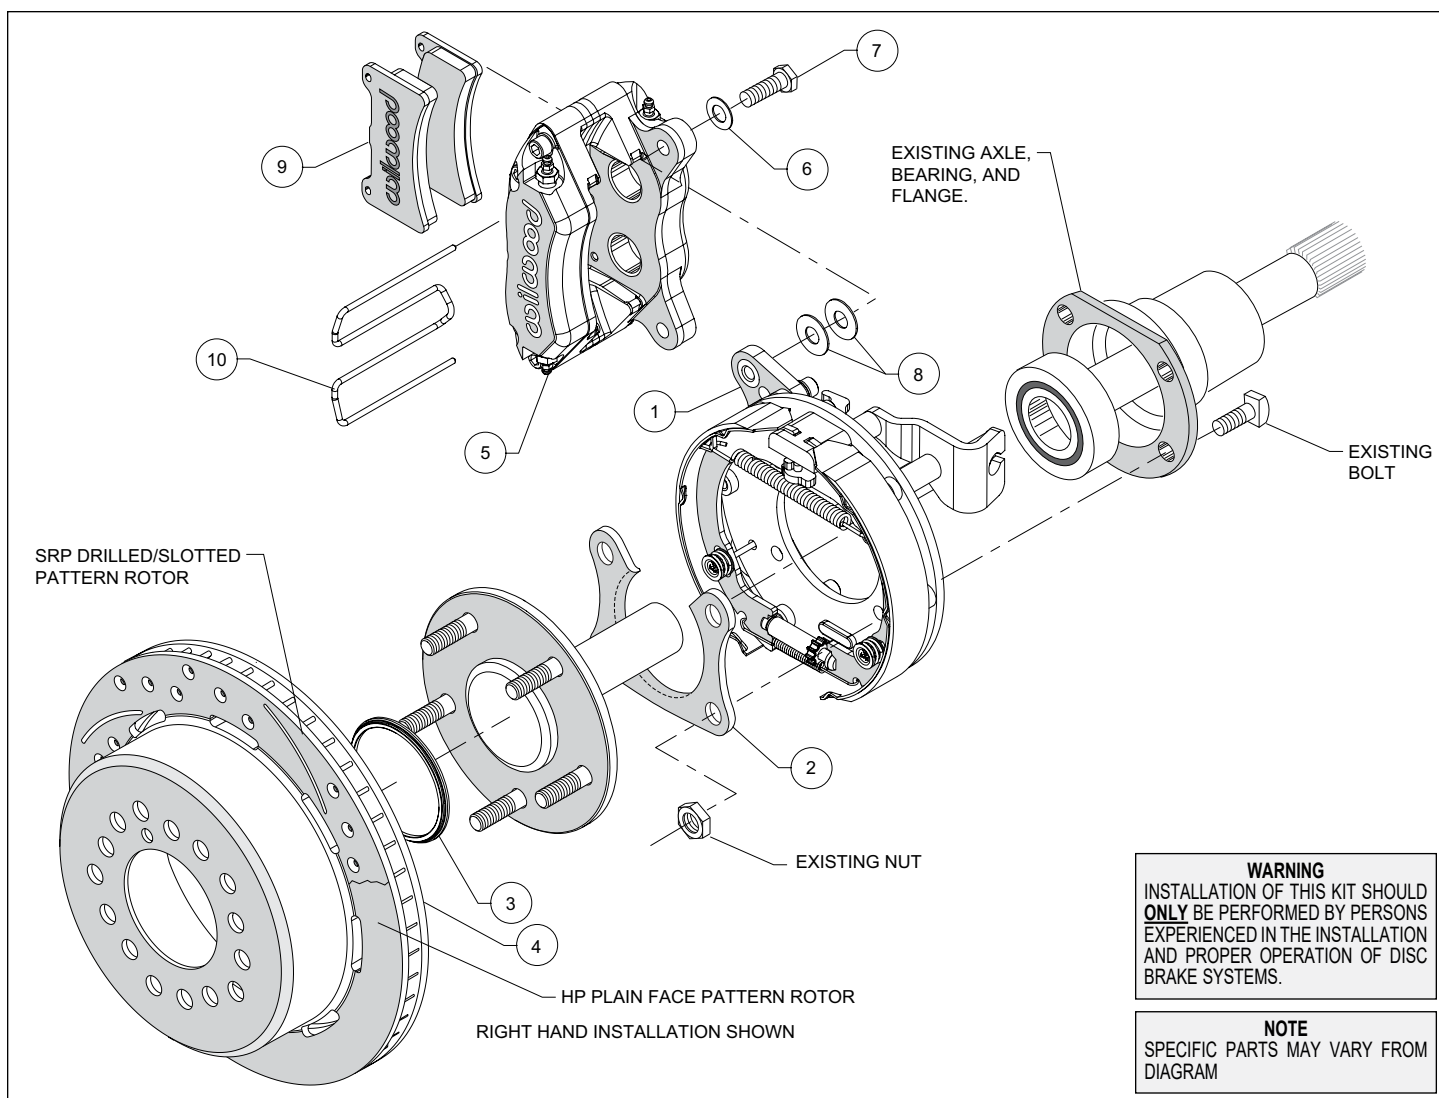

Figure 1. Typical Installation Configuration
NOTE: Numbers in parenthesis refer to the parts list and Figure 1 on the preceding pages.
- Orient the bracket assembly (1) as shown in Figure 1 and Photo 1 and slide it onto the axle. Insert the axle and bracket into the axle housing. Ensure that the bracket assembly backing plate fits flush against the axle housing flange.
- Install the bearing retainer (2) with the opening pointing upward and the lip facing inward (toward the bearing), as shown in Figures 1 and 4, and Photo 2. Secure retainer and bracket assembly to the axle housing flange using the Original Equipment Manufacturer (OEM) bolts and nuts, Figure 1. Apply red *Loctite*® 271 to the OEM bolt threads and torque to OEM specifications.
•Slide the rotor registration adapter (3) onto the axle register on the axle flange with the smaller O.D. facing toward the rotor/hat (4), Photo 3. Align the correct hole pattern in the rotor/hat with the stud pattern on the axle flange and slide into place, Figure 1 and Photo 4. **NOTE:** The rotor/hat must fit flush against the axle flange or excessive rotor run out may result. Install three lug nuts (finger tight) to keep the rotor/hat assembly in place while continuing with the installation. **NOTE:** Some OEM and after market axles come with stud sizes larger than 0.50" diameter. Verify stud size and have a qualified machine shop drill the bolt circle of the hat/rotor to the correct stud size, if necessary.
•**NOTE:** Please reference the caution statement at the beginning of the assembly instructions. Mount the caliper (5) onto the caliper mounting bracket (1) using bolts (7) and washers (6), as shown in Figure 1.